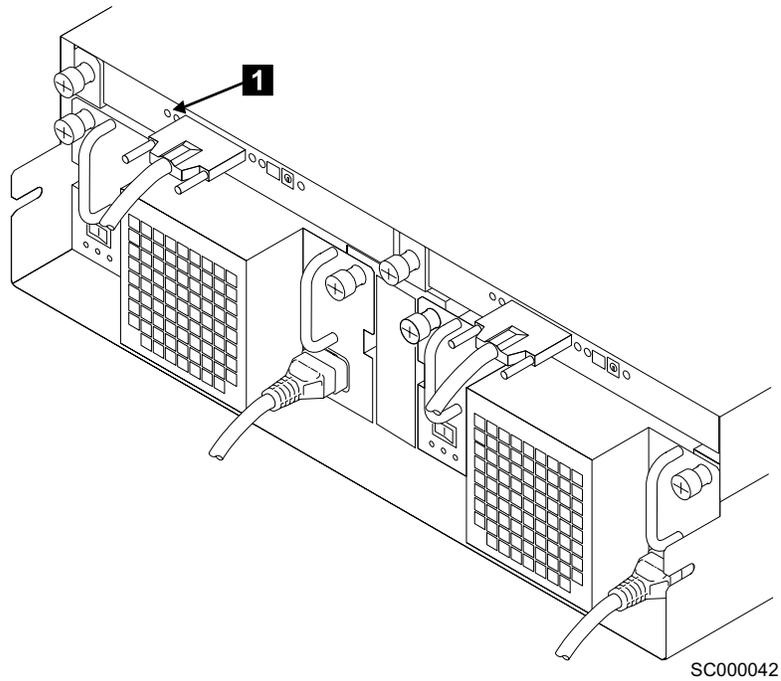

Figure 78. SCSI Interface card assembly TERM POWER light
9. Check that the green TERM POWER light **1** comes on within 5 seconds. See Figure 78. It indicates that the TERM POWER from a host bus adapter is activated. If it does not, check that the new SCSI Interface card is correctly installed.